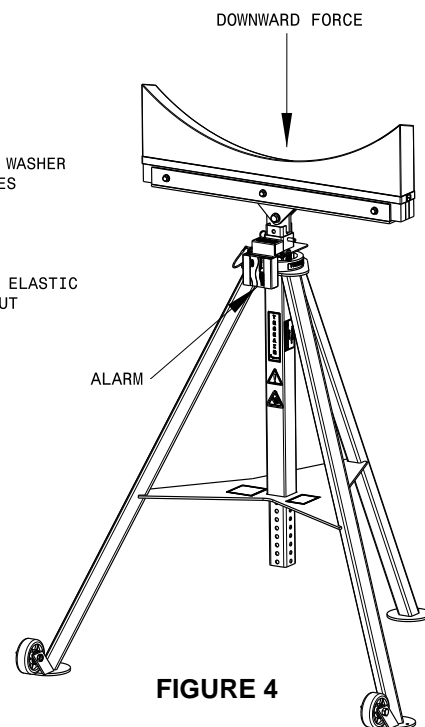

FIGURE 4
2. Test alarm by slowly applying a force evenly distributed across the top of the cradle. The cradle head will lower and engage a limit switch. A loud pulsating alarm will then sound when the force reaches between 100 to 150 lbs (45.36 to 68.04 kg). If alarm does not sound, refer to the Troubleshooting section. **Reference Figure 4.**